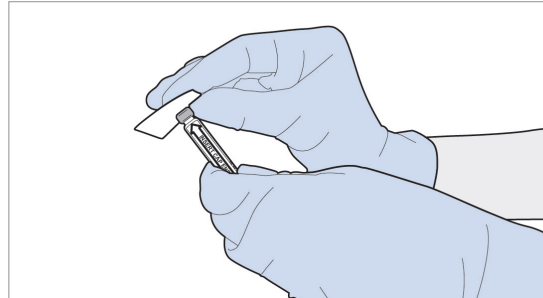

Figure 34 Alcohol Swab Drug Cartridge Septum
13. Clean the septum of the Drug Cartridge with alcohol swab and allow to dry (see Figure 34).